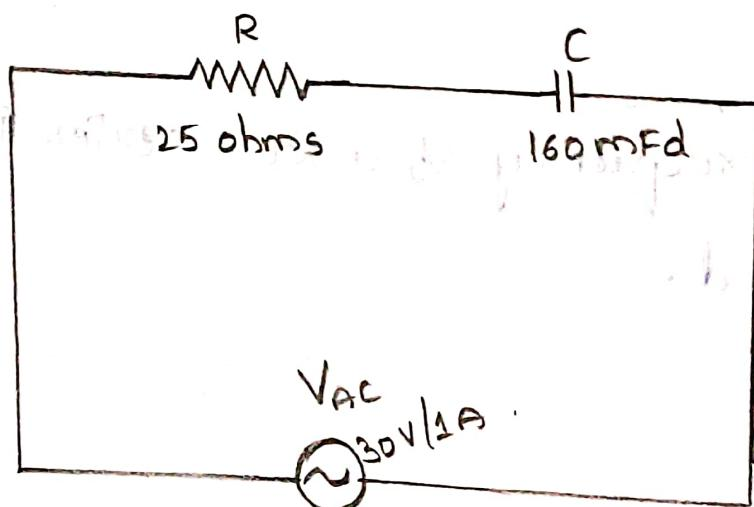

fig 2: RC series circuit.
2. Make the Connections as per the fig. 2 as shown.